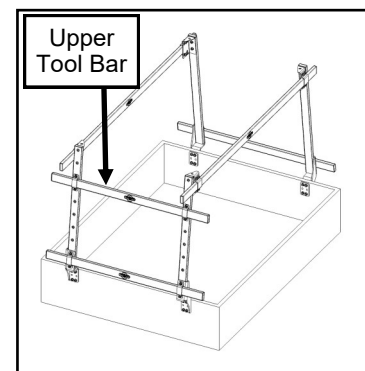

Fig. 8
8. See fig. 8. Choose the desired height for a second horizontal tool bar (ref.: 42" long tube) and install, using the tool bar tube clamps (2 holes). One of the middle sets of holes in the vertical tube is recommended.